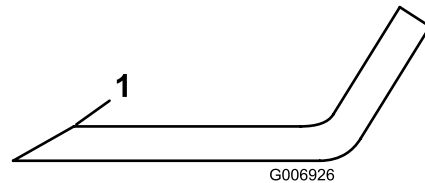

Figure 69
3. Inspect the cutting edges of all blades. Sharpen the cutting edges if they are dull or nicked. Sharpen only the top of the cutting edge and maintain the original cutting angle to make sure of sharpness (Figure 69). The blade will remain balanced if the same amount of metal is removed from both cutting edges.